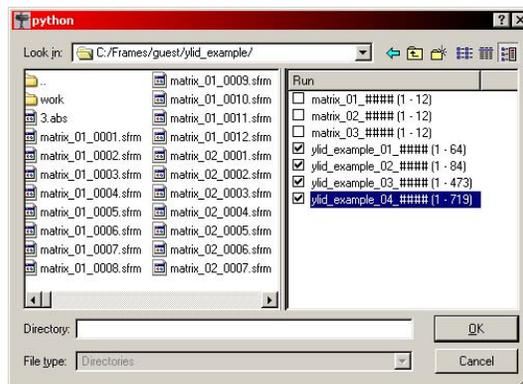

Figure 8.18 – File Selection window with matrix runs deselected
- To open the File Selection window, click the folder beside the file name. Choose the sets of images that you want to use for the calculation by clicking on the check boxes (see Figure 8.18).